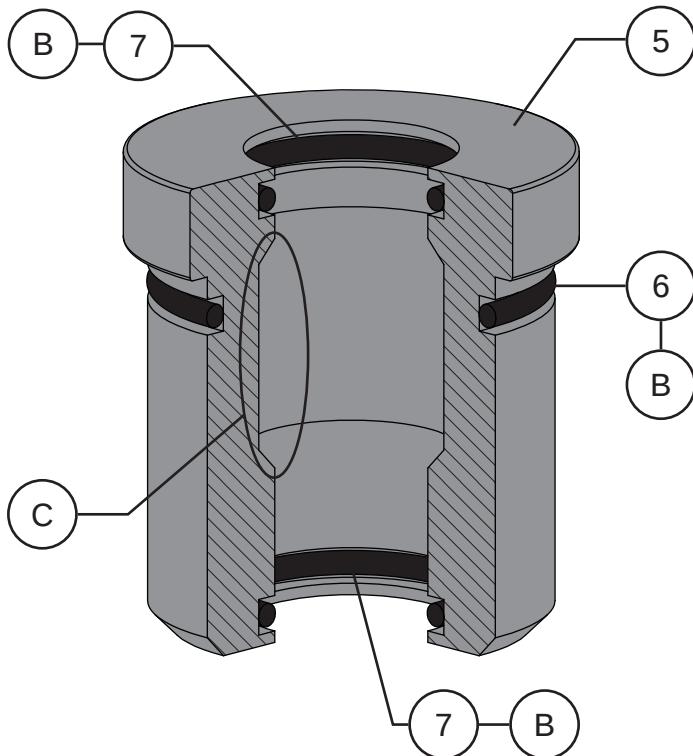

Figure 20 Bushing / O-Ring Detail
- 4 Using a pick set, carefully remove the o-rings (Keys 6 & 7) from the bushing (Key 5). Refer to Figure 20.
- 1 Fill the pocket inside the bushing (Key 5) with Lubriplate® No. 105 (Key C), refer to Figure 20.
- 2 Apply Dow Corning Molykote® 111 to the o-rings (Keys 6 & 7) and install them into the bushing (Key 5). Refer to Figure 20.